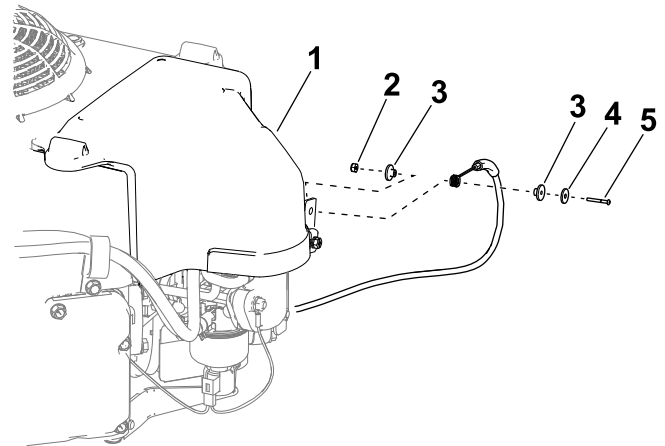

Figure 1
2. Remove the hardware that secures the choke cable to the engine (Figure 1).
2. Use the bolt, spacers, washer, and nut to secure the choke cable to the choke lever at the carburetor (Figure 1).